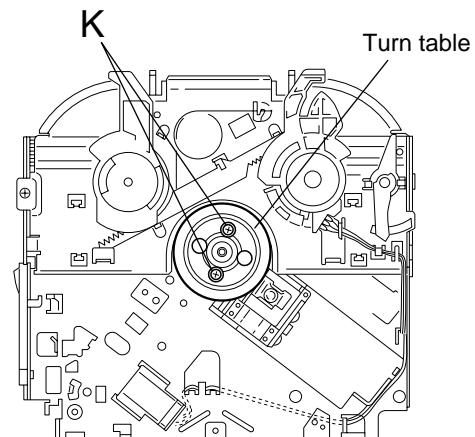

Fig.37
■Removing the turn table / spindle motor (See Fig.37 and 38)